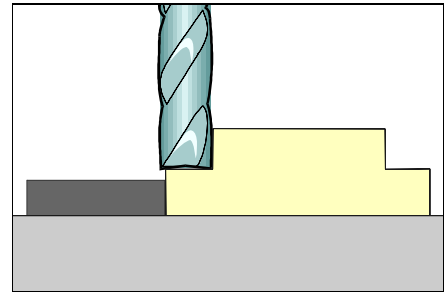

Figure 4: Mill a step onto the edge of the replacement base material.
6. Install an end mill into the chuck of a Precision Drill Press. Machine a step onto the entire mating edge of the replacement base material. The dimensions of the step should match the size of the step in the PC board milled groove. (See Figure 4).